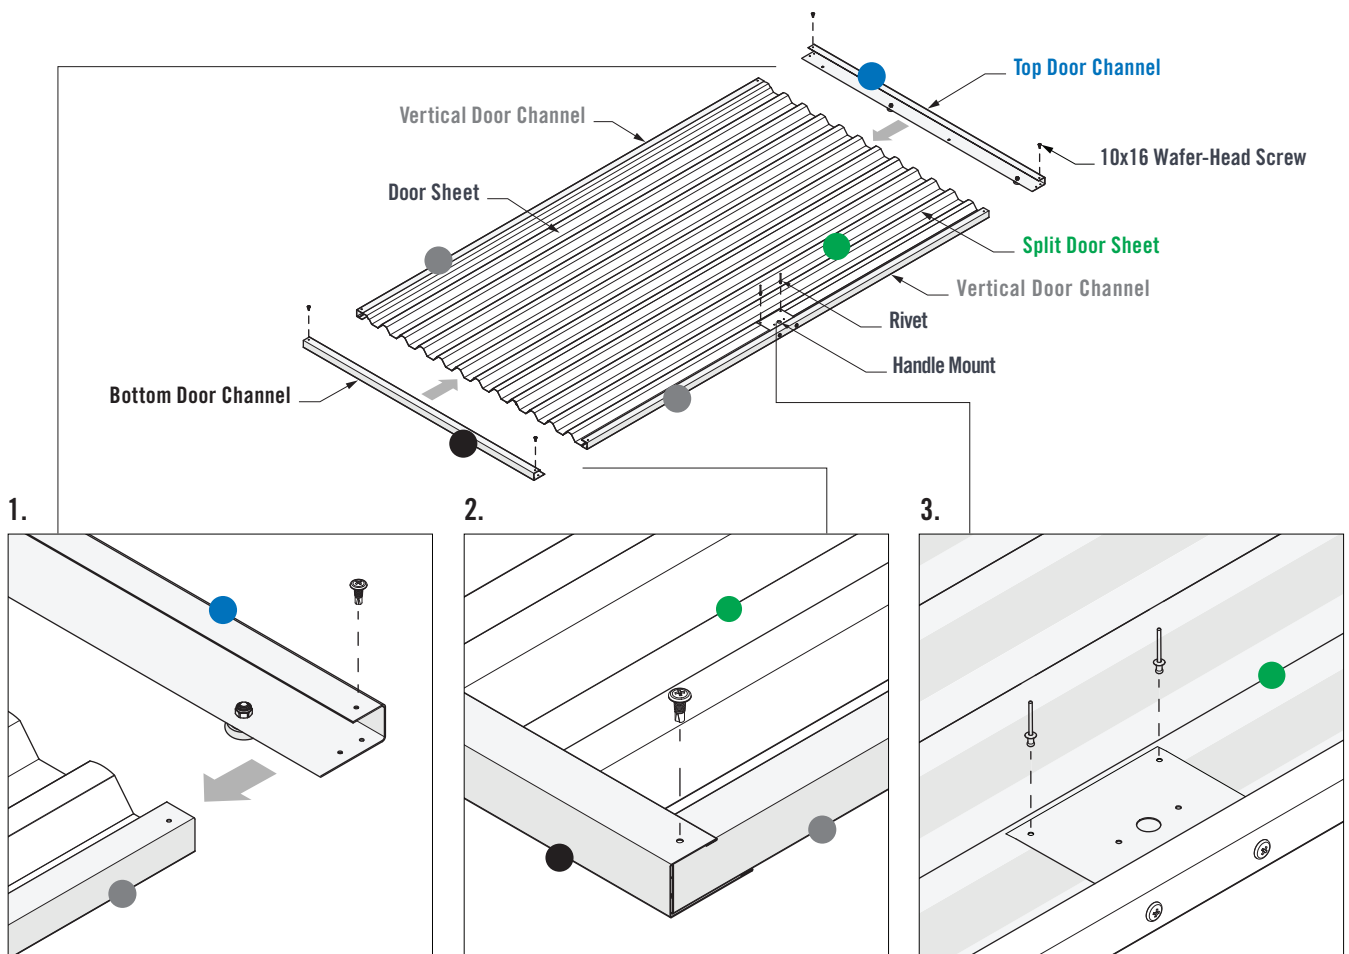

FIGURE 5.5
1. Fit the Vertical Door Channels over the sides of the door sheets, then fit the Top and Bottom Door Channels over the door sheet ends. Ensure the lip of the Top and Bottom Door Channels fit over the Vertical Door Channels (Figure 5.5).
2. Fasten one 10x16 Wafer-Head Screw through the pilot holes in the corner of each Top & Bottom Channel and into the Vertical Door Channels (Figure 5.5).
3. Crest-fix two 10x16 Wafer-Head Screws through the pilot holes in the Handle Mount and into the Split Door Sheet (Figure 5.5).